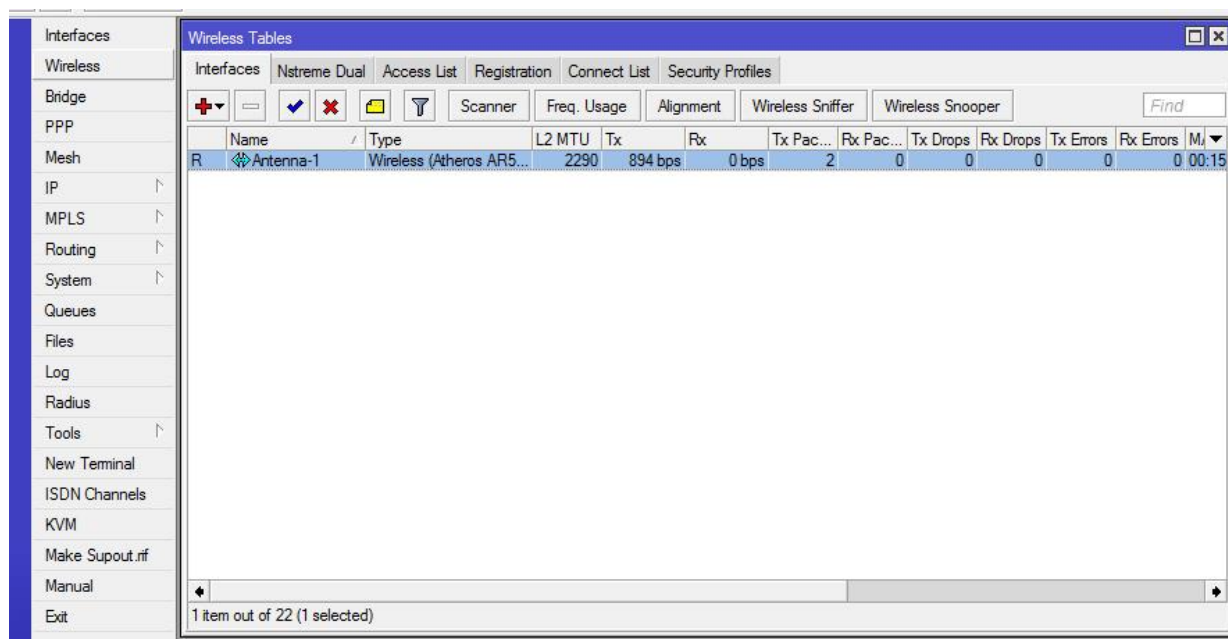

Figure 9. Wireless Tables Dialog Box
2. Open the **Winbox** program and use the assigned (or changed) IP address and your new password (if applicable to connect to the Access Point device. Select **Wireless** in the **Winbox** menu to display the **Wireless Tables** dialog box as shown in Figure 9 below.